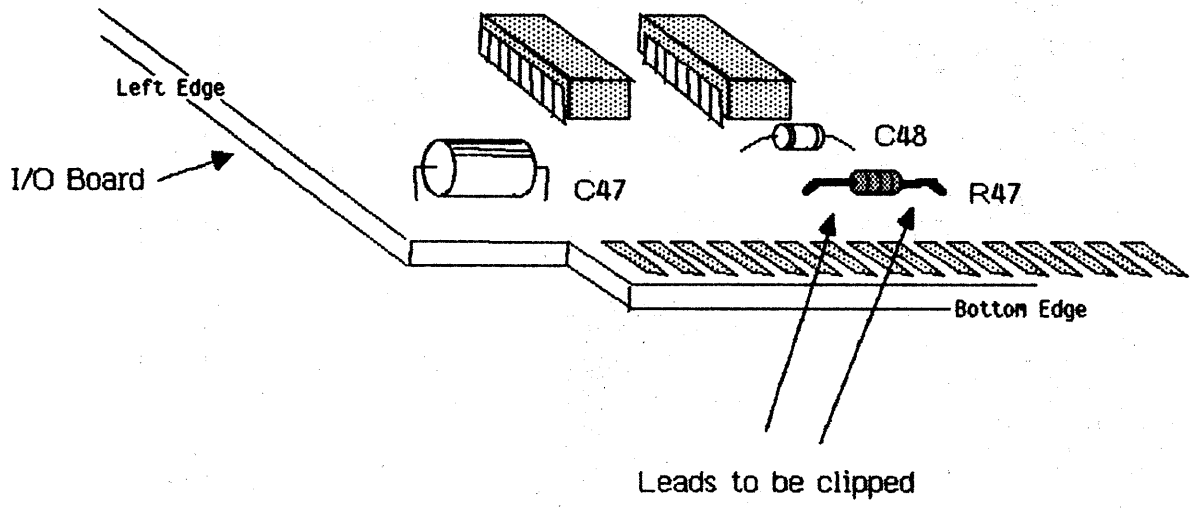

FIGURE 3: REMOVAL OF 1 K OHM RESISTOR R47
- 9) See figure 3, page 7 of this document. Carefully remove the 1 K ohm resistor R47 at the bottom left of the I/O board by clipping both of the resistor leads.